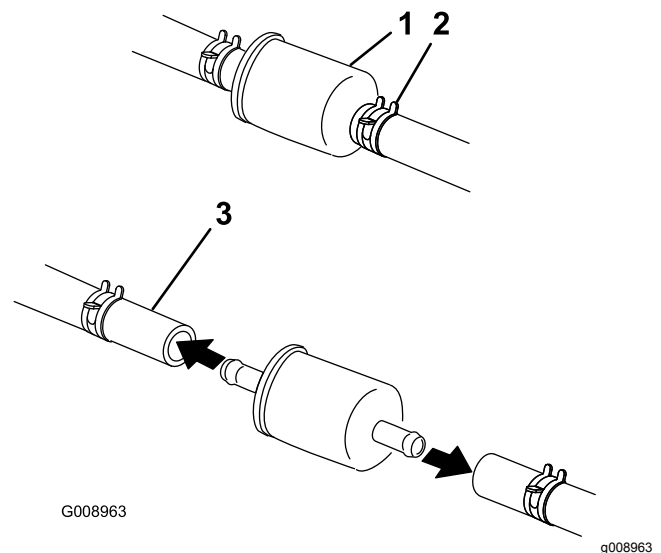

Figure 57
5. Close the fuel-shutoff valve under the seat (Figure 57).
6. Squeeze the ends of the hose clamps together and slide them away from the filter (Figure 57).
8. Install a new filter and move the hose clamps close to the filter (Figure 57).